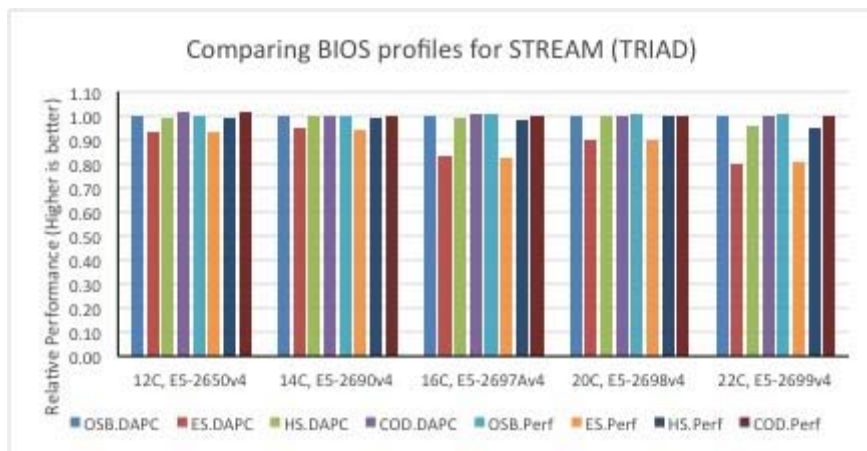

Figure 4: Comparing BIOS profiles with STREAM (TRIAD)
Figure 4 shows the STREAM performance characteristics with two BIOS system profile options for all the snoop modes. Opportunistic snoop Broadcast (OSB) snoop mode along with DAPC system profile is chosen as the baseline for this study. Memory Bandwidth with each BIOS profile combination except Early snoop (ES) mode with both system